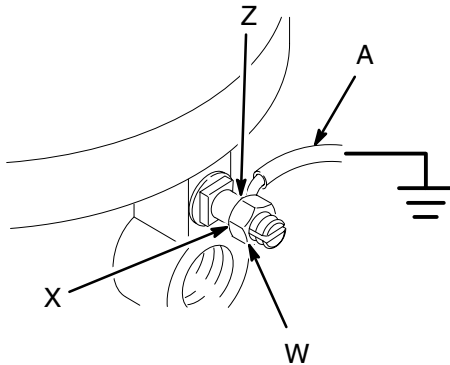

Fig. 1
1. *Pump*: use the ground wire and clamp (A, supplied). See Fig. 1. Loosen the grounding lug locknut (W) and washer (X). Insert one end of the ground wire (A) into the slot in lug (Z) and tighten the locknut securely. Connect the ground clamp to a true earth ground.